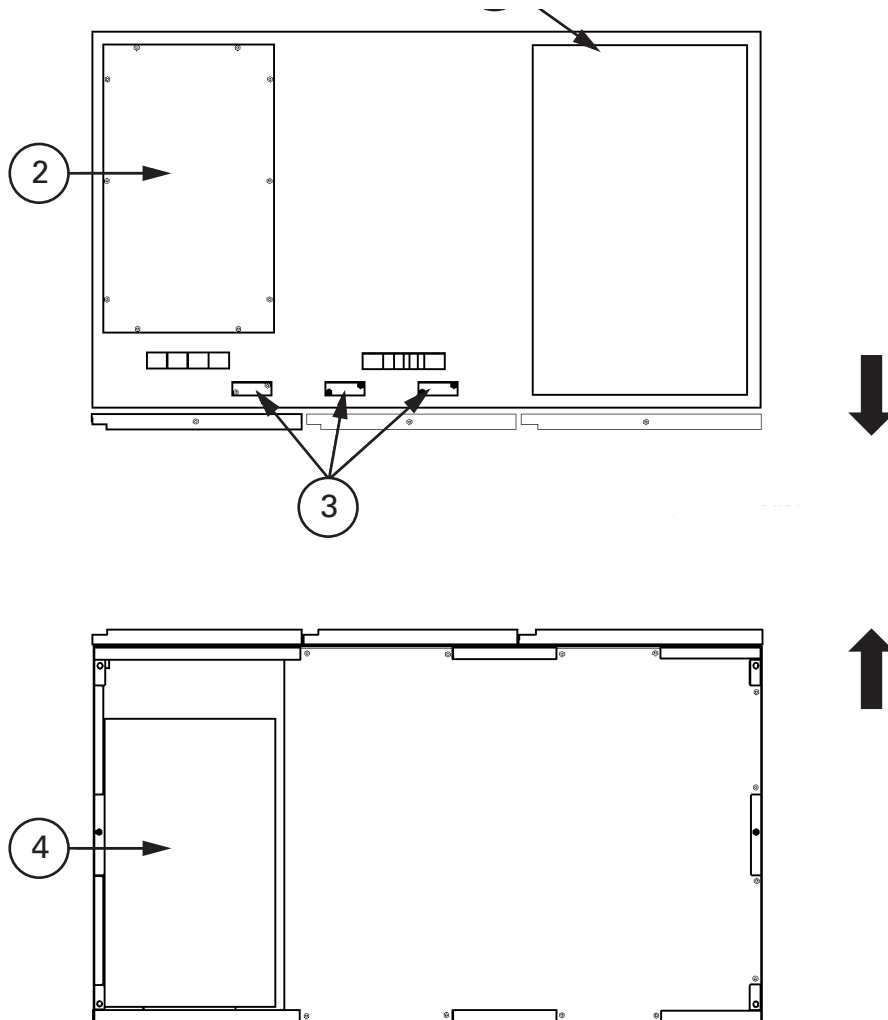

Figure 4-5. Conduit and wire entry locations
Remove the UPS cabinet top or bottom conduit landing plate to drill or punch conduit holes (see Figure 4-5).
1. Remove one top screw and two bottom screws securing the UPS left front panel (see Figure 4-5 on page 42). Lift the panel straight up to remove from the panel hanger bracket at the top of the cabinet.
2. Route the input and output cables through either the top or bottom of the cabinet to the UPS terminals. See Figure 4-5 through Figure for wiring access information and common rectifier feed terminal locations.
2. Route and connect the battery cables between the UPS and the battery cabinets in accordance with the instructions in the Eaton 9395P Integrated Battery Cabinet (Model IBC-L installation manual. See Figure 4-5 through Figure 4-6 for wiring access information and terminal locations.
5. Route and connect the battery cables between the UPS and the battery system. See Figure 4-5 through Figure 4-6 for wiring access information and terminal locations.
8. Remove the UPS cabinet top interface entry plates to drill or punch holes (see Figure 4-5 on page 42).